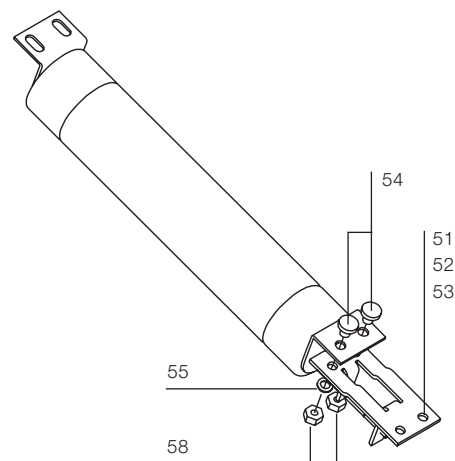

Fig. 20a
a) Mounting the adapters (fig. 20a)